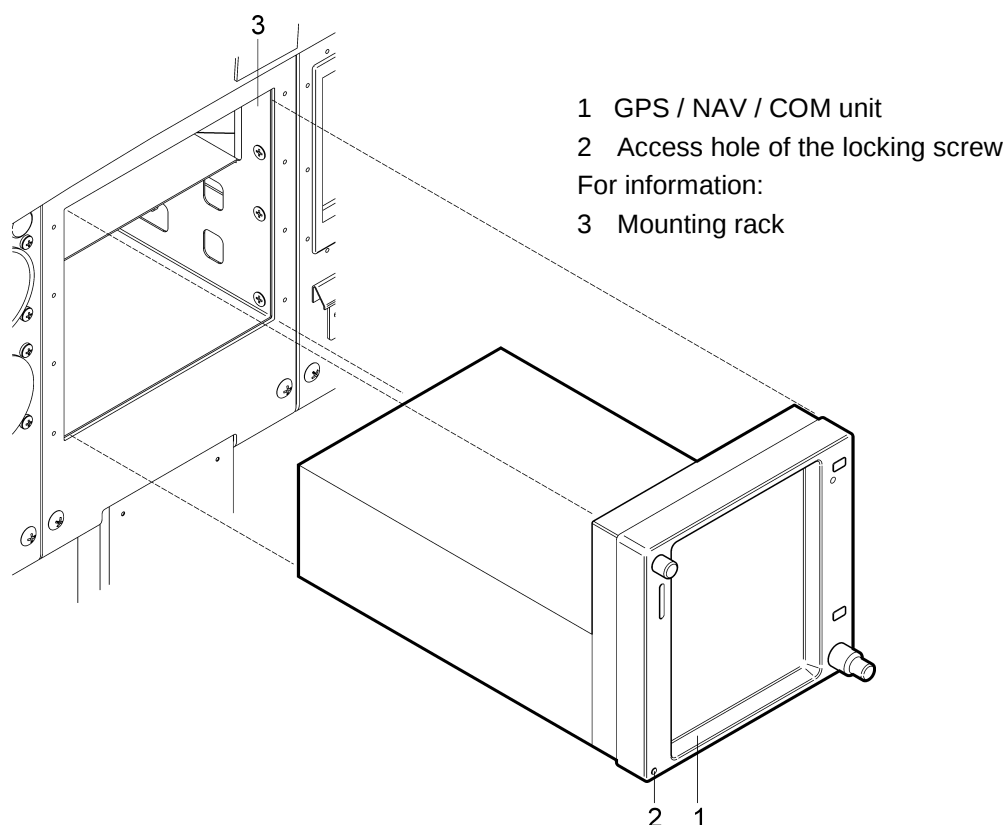

Fig. 12-34: GPS / NAV / COM unit removal / installation
- Put a 3/32 Allen wrench into the access hole (2, Fig. 12-34) for the locking screw; engage the screw.
- Turn the screw counter-clockwise until the unit (1) is forced out about 9.5 mm (3/8 in) and can be freely pulled from the mounting rack.
- Slide the unit (1, Fig. 12-34) straight in the rack until it stops about 25 mm (1 in) short of the final position.
- Insert Allen wrench into access hole (2).